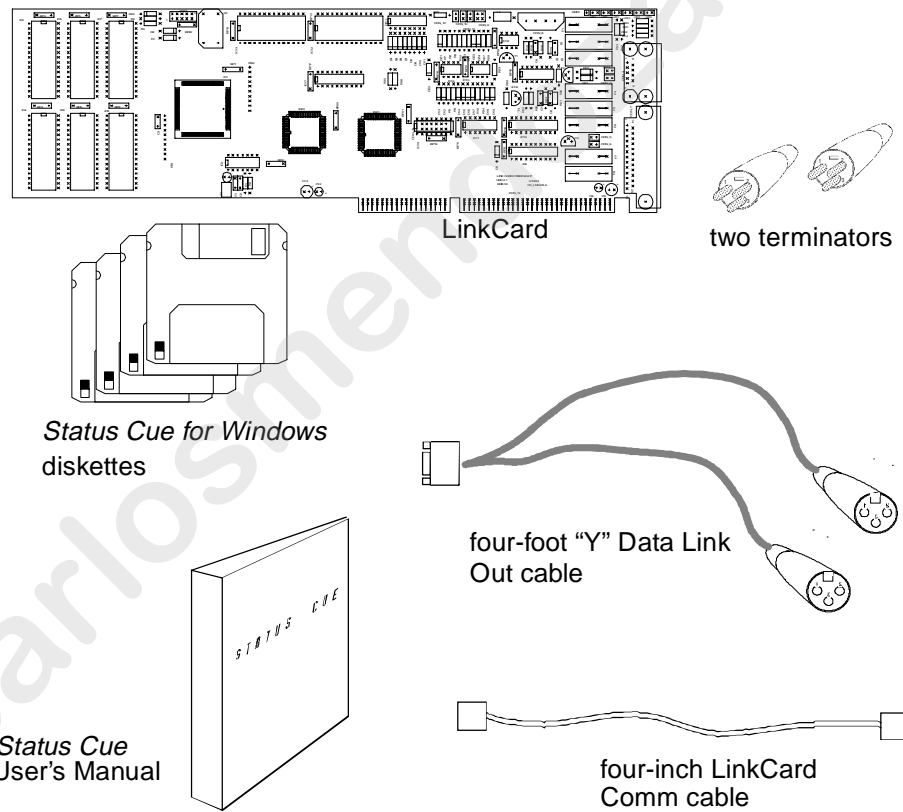

Figure 1.4. Identifying LinkCard Carton Items
**LinkCard Carton** – verify the following items in the LinkCard carton (refer to Figure 1.4):